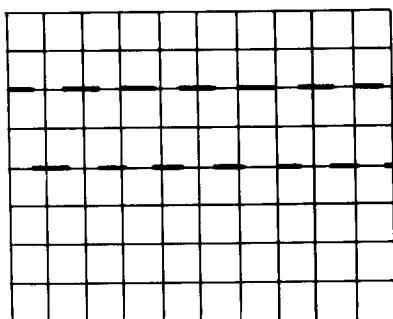

Figure 3-3. Normal Display
b. Adjust horizontal POSITION 25 to place waveform portion to be magnified on CRT center graticule (see figure 3-3).